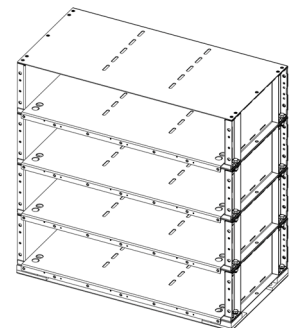

FIGURE 4a
1. With a hoist or lift, place the four high stack that does not have the top bracket bolted to it onto the base weldment. See Figure 4a.